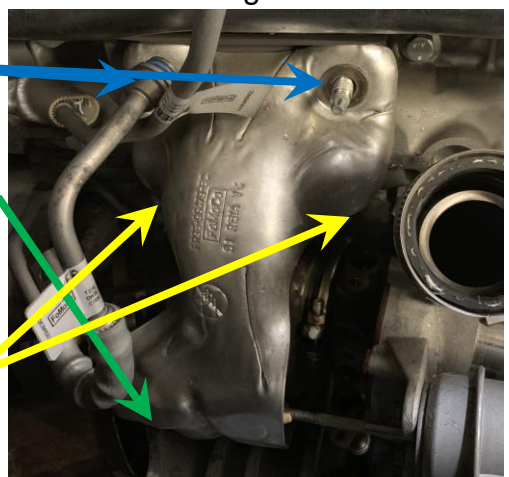

Fig. 14
1. Remove the top nuts holding the heatshield to the engine head. See Fig. 14 (use 13mm socket)
2. Locate and remove single bolt holding the heatshield to the Turbine Housing. Bolt is difficult to see as its tucked under the shield. See fig. 14 (use 8mm socket or T35 Torx)
3. Remove the last two bottom nuts holding the Turbo to the engine head. See Fig. 14 (use 13mm socket)